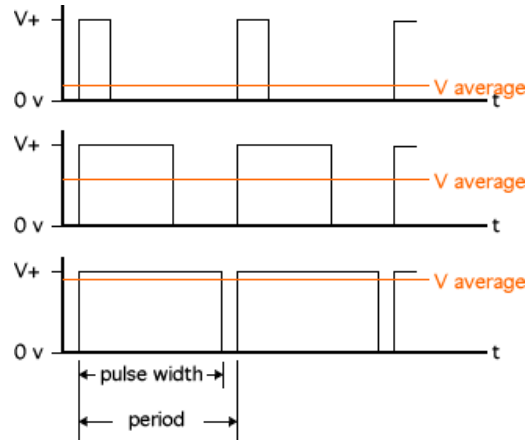

Figure 2 PWM wave
PWM is a commonly used technique for controlling power to electrical devices. The average value of voltage fed to the load is controlled by turning the switch between supply and load on and off at a fast pace. **Period** of PWM has to be small enough so the effect of on/off switching be unnoticeable on load. **Pulse Width** (PW) determines amount of power that is fed to load. In this experiment period of PWM is fixed to 256 clocks and its pulse width is the value on 8-bit input of module. Figure 2 shows sample PWM waves. In each cycle first 'PW' clocks output value is '1' and it is '0' for rest of cycle.